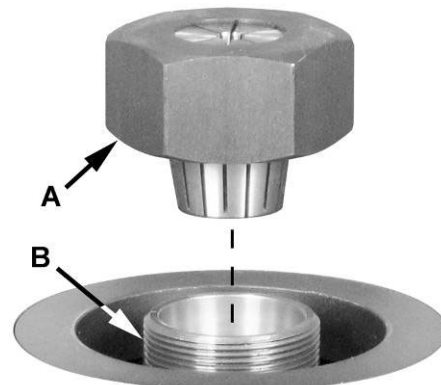

Figure 17
2. Place the *router collet* (A, Fig. 17) onto the *spindle* (B, Fig. 17) and secure with the *wrench* (K, Fig. 15) provided.
Turn the *router collet* (A, Fig. 17) by hand to verify that it turns freely.